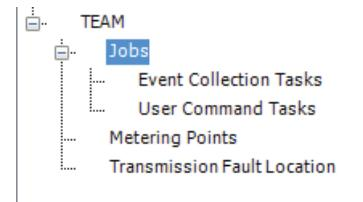

Figure 93 Define TEAM Jobs
- Step 5. Double-click **Jobs** under the **TEAM** node, as shown in *Figure 93*. Select **Edit** to activate the **Jobs** window. From the **Job Name** box, choose **SEL Default Event Collection Job**, then select **Edit**. This starts the Job Wizard.